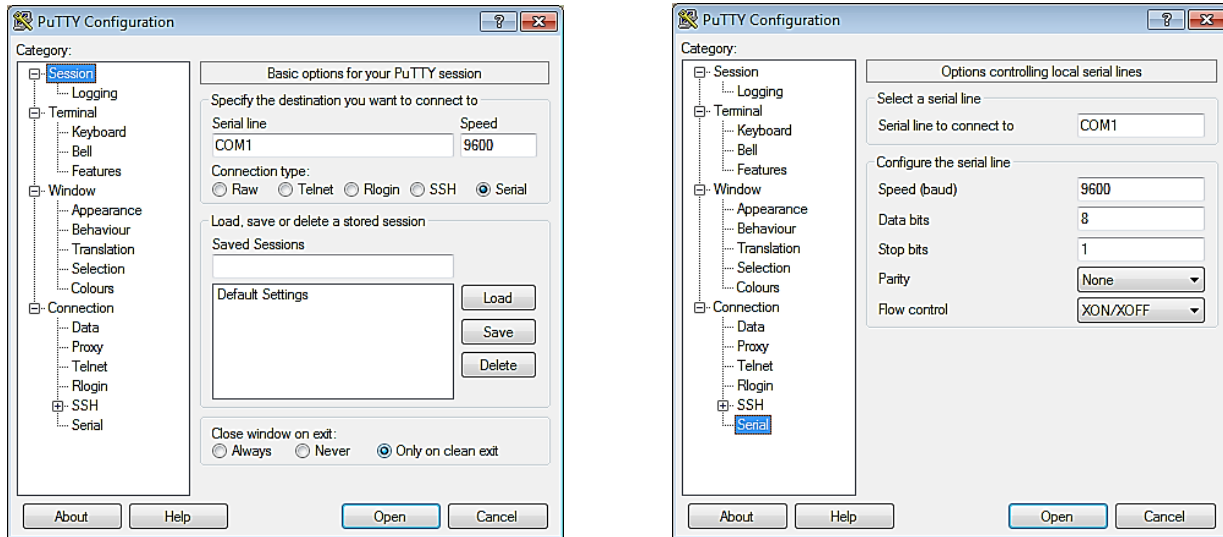

Figure 8-1: PuTTY GUI: Basic Serial Session (L) and Serial Options (R)
To use PuTTY to logon to a remote machine, bring up the PuTTY application by double-clicking its icon. You will see the main window as shown in left image of Figure 8-1.
To create a Serial connection, click the radio button labeled **Serial**. The **Serial line** and **Speed** fields will then be automatically filled in as shown in **left** image of Figure 8-1, but will allow you to specify the serial line to use (if your computer has more than one) and what speed (baud rate) to use when transferring data. For further configuration options (data bits, stop bits, parity, flow
control), you can use the **Serial Configuration** panel (*right* image in Figure 8-1) by selecting “Serial” in the left navigation pane.
So that you don't have to enter this information every time you wish to connect to your server, you can save this configuration by typing an appropriate *name* in the **Saved Sessions** text box in the PuTTY “Basic Options” window (left image of Figure 8-1) and then clicking the **Save** button. In the future, you can select the *name* you chose in the list box and click the **Load** button to initialize this particular configuration.
2. At the bottom of the Basic Options dialog box (left image of Figure 8-1) in the section titled: Close window on exit, select the Never radio button. This will keep the window open after the command has finished executing so that you can see any results in the terminal window.